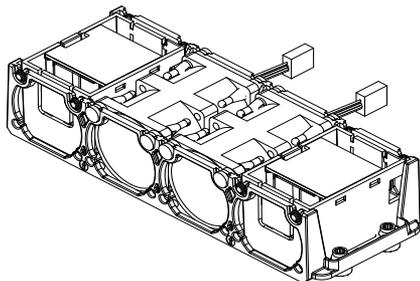

Figure 6-7 Remove/Replace Fan Assembly Example
5. Lift the assembly housing the failed fan from the fan tray and out of the chassis, see the example in Figure 6-7 on page 55.